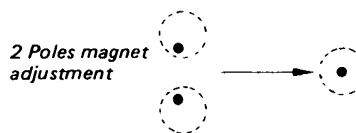

Figure 1-4
- 14) Adjust the luminous point to be the center of the dot by 2 Poles magnet (see page 31) as Fig. 1-4.
- 15) Confirm the items 11) and 14) by turning GREEN FOCUS VR (FOCUS PACK) clockwise and counterclockwise centering around the best point. When the dot moves, adjust the tracking by repeating items 10) to 14).